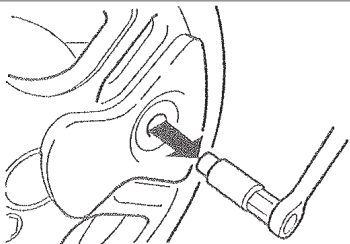

Fig.7
- Remove the locking bolt socket key. **(Fig 7)**